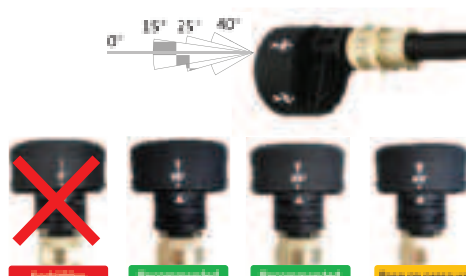

Figure 5
- Water outlet angle for high pressure cleaning equipment shall over 15° , see figure 5. NEVER use direct water jet mode for cleaning.